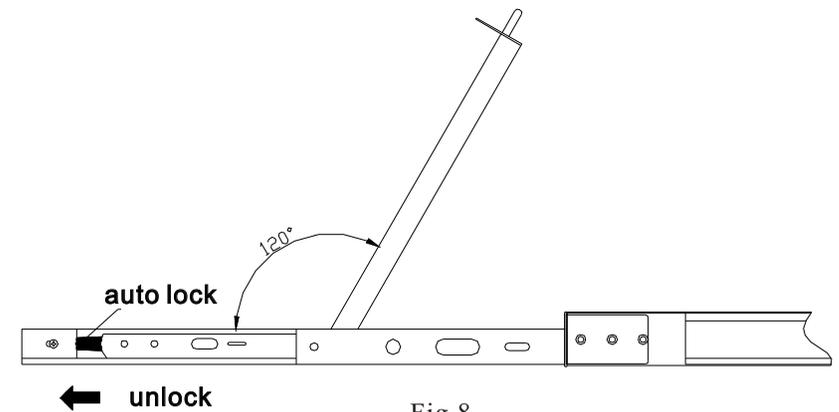

Fig.8
- * The panel can be Open to 120° for use; (see fig.8)
- * Release the guide rail lock (see fig.8)